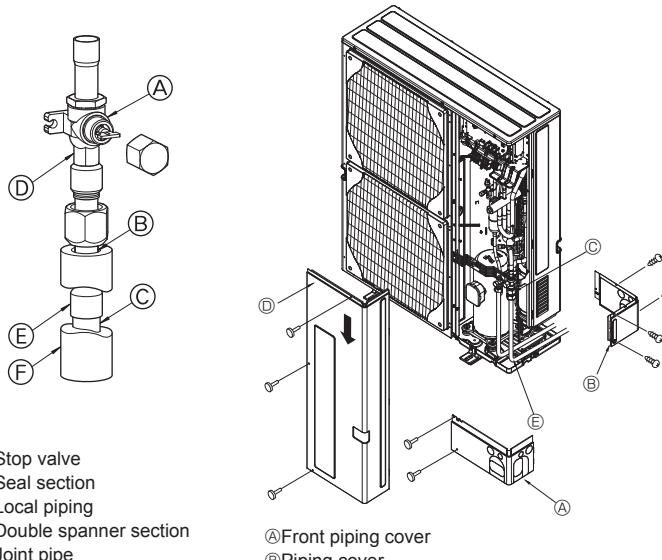

Fig. 4-3
③ Use the following procedure for connecting the gas-side piping. (Fig.4-3) (SHW230)
- Braise the ④ Joint pipe provided to the outdoor unit using locally procured brazing materials and ⑤ Local piping without oxygen.
- Connect the ④ Joint pipe to the gas-side Stop valve.